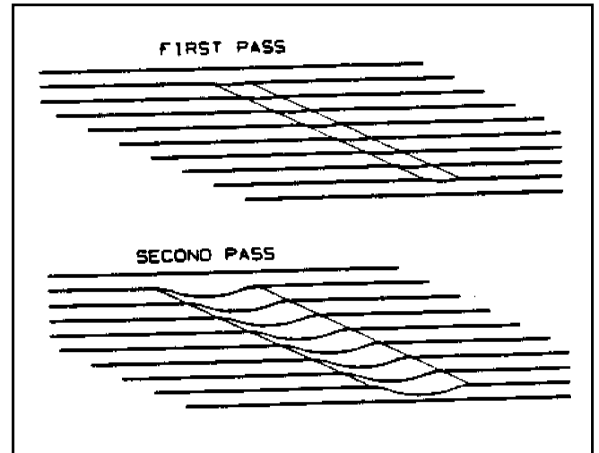

Figure 14
1. **DRUM MARKS**...are caused by the operator lowering the drum to the floor without forward traverse. These marks should be removed by cutting at a 45 degree angle to the mark. Cutting at the mark while maintaining the same path will only increase the mark depth and width. (See Figure 14)